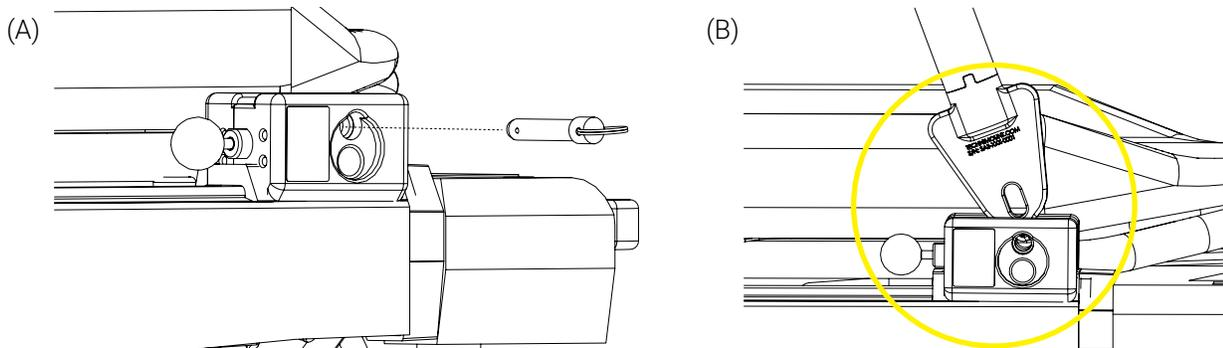

Figure 11: Safety Arm System™ 500 installation
1. Remove the lock pin using the finger ring (Figure 11 A).
2. Pull and hold the safety pin (red quick release mechanism) in this position, then insert the triangle at the base of the arm at an angle into the clamp block (Figure 11 B).